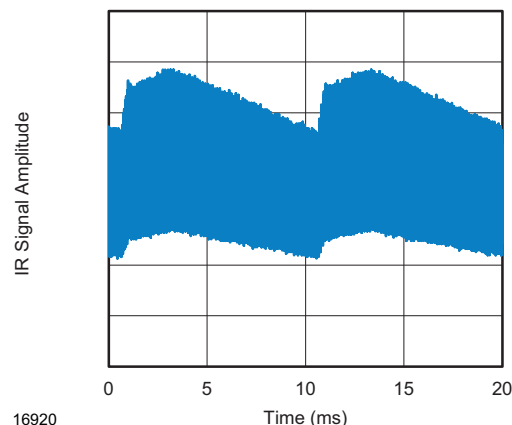
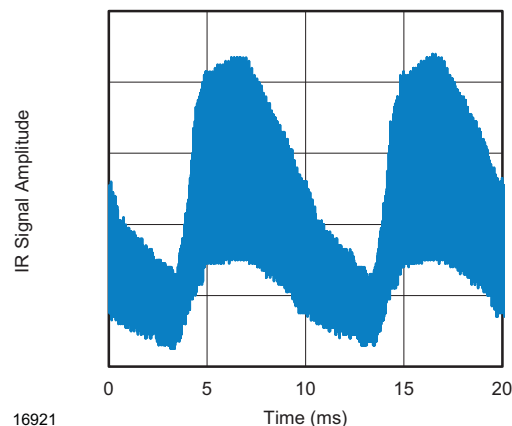

Fig. 14 - IR Disturbance from Fluorescent Lamp With Low Modulation
Fig. 15 - IR Disturbance from Fluorescent Lamp With High Modulation
- Strongly or weakly modulated patterns from fluorescent lamps with electronic ballasts (see Fig. 14 or Fig. 15)